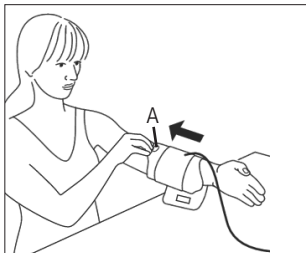

Fig.1
- The blood pressure must be measured on a bare upper arm. If the cuff is completely open, thread the end of the cuff through the metal ring to form a loop. The hook-and-loop fastener must face outwards. Hold the cuff by the grip tab A (see Fig. 1) and pull it over the upper arm.